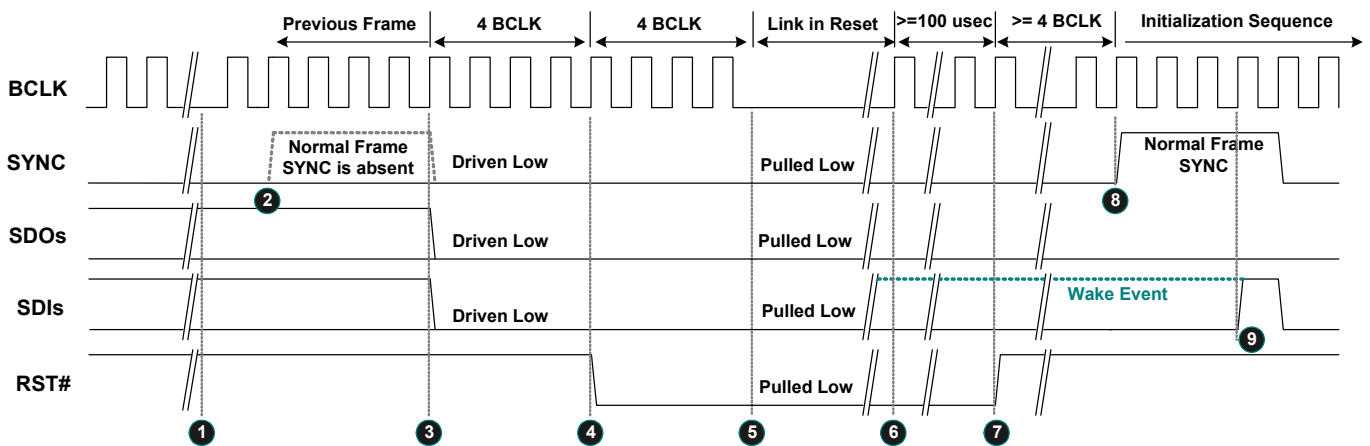

Figure 11. Link Reset Timing
3. Software initiates power management sequences. Figure 11, page 19, shows the ‘Link Reset’ timing including the ‘Enter’ sequence (❶~❺) and ‘Exit’ sequence (❻~❾)